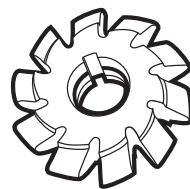

FIGURE 16—A  $14\text{-}1/2^\circ$  HSS involute gear cutter and a chart showing the cutting range of each size
Gear cutters may be purchased from large, industrial tool suppliers. One of the best known is Manhattan Supply Company in New York. Contact them at (800) 645-7270 or check their website at [www.msdirect.com](http://www.msdirect.com). They carry a complete selection of  $14\text{-}1/2^\circ$  and  $20^\circ$  HSS gear cutters in stock. The chart in Figure 16 shows what size cutter is used based on how many teeth are to be cut on the gear.